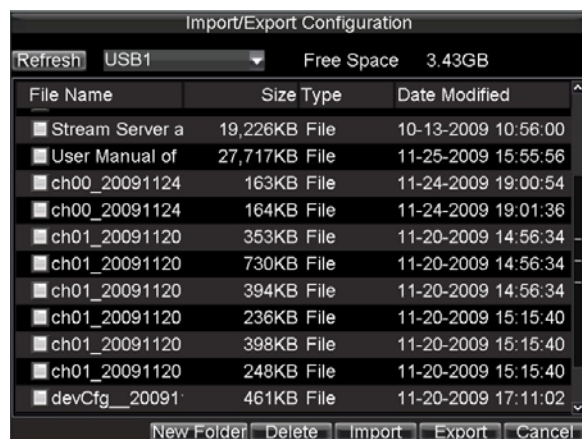

Figure10. Import/Export Configuration Menu
1. Click Menu > Maintenance > Configuration to enter the Import/Export Configuration menu, shown in Figure 10.